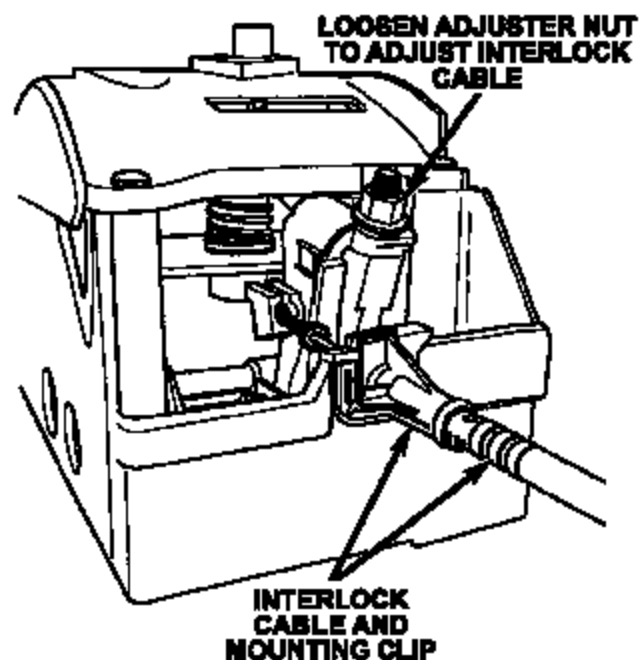

Figure 10 – Manual Adjusted Cable
1. Loosen the adjustment nut located on the shifter housing (Figure 10).